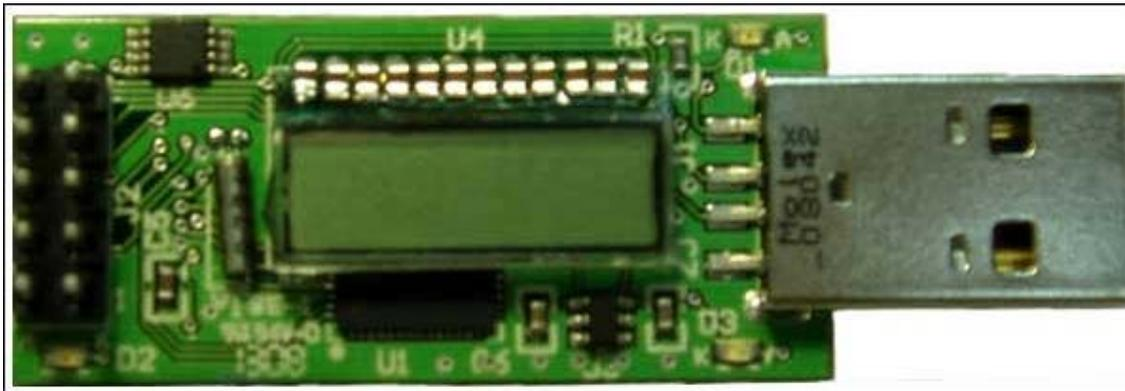

Figure 1. MAXQ2000 USB EV kit board.
The MAXQ2000 USB Thumb Evaluation Kit is a proven platform for conveniently evaluating the MAXQ2000 RISC microcontroller. The evaluation (EV) kit board is a small "thumb drive" form factor with a USB interface (**Figure 1**). By installing the MAX-IDE assembly language Integrated Development Environment on a connected computer, applications can be developed and debugged on this EV kit board. The MAX-IDE program is available on the USB flash drive included in the kit or by download from the Maxim website.